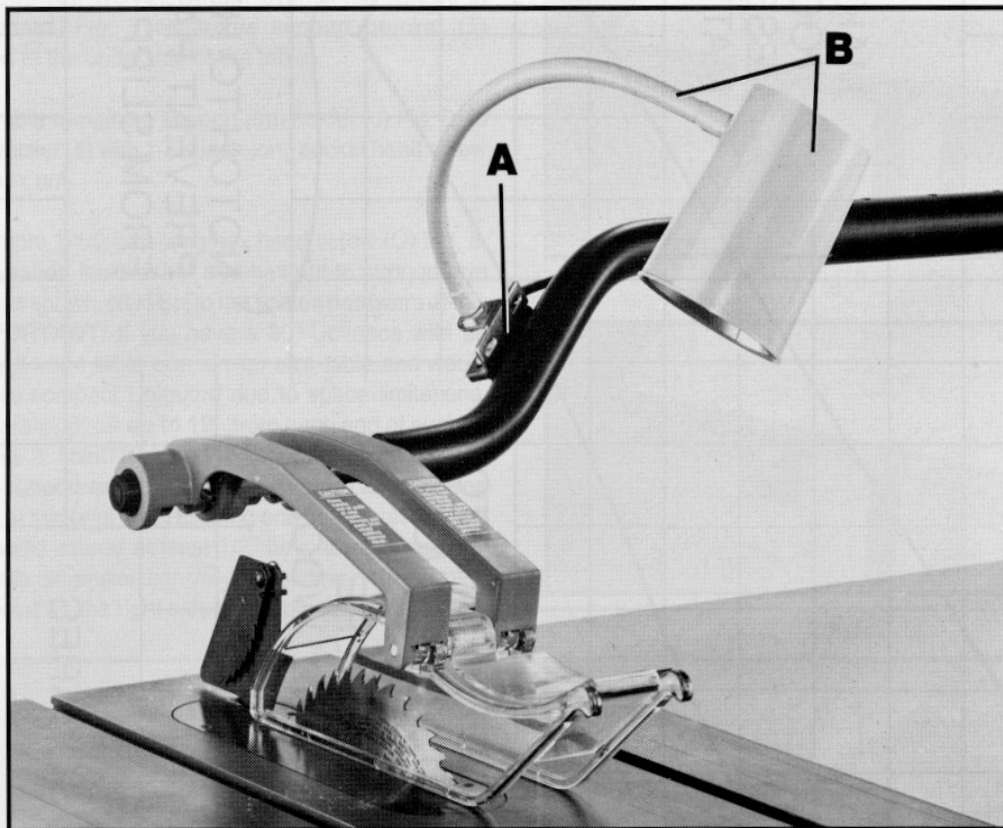

Fig. 47
A bracket (A) Fig. 47, is supplied on the extension arm that will accept the accessory 25-858 Lamp Attachment as shown.